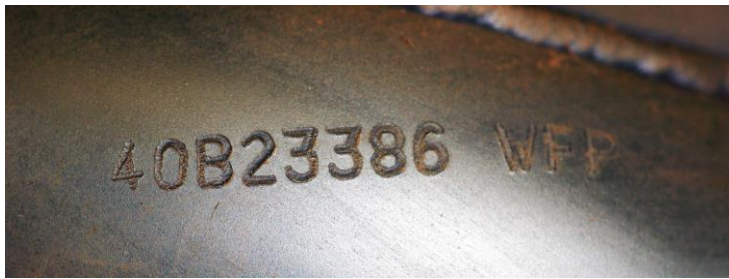

Figure 6
- Only the part number (P/N) (Figure 6). All pipes will be stamped with at least the P/N.